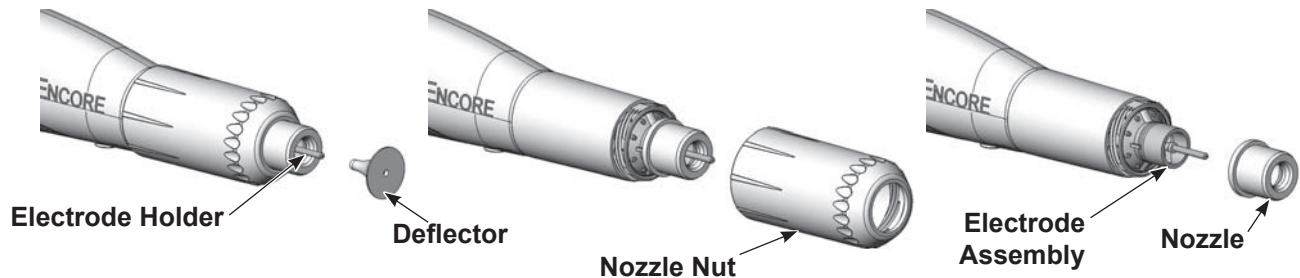

Figure 7 Changing a Conical Nozzle
2. See Figure 7. Gently pull the deflector off the electrode assembly. If only changing the deflector, install the new one on the electrode assembly, being careful not to bend the electrode wire.